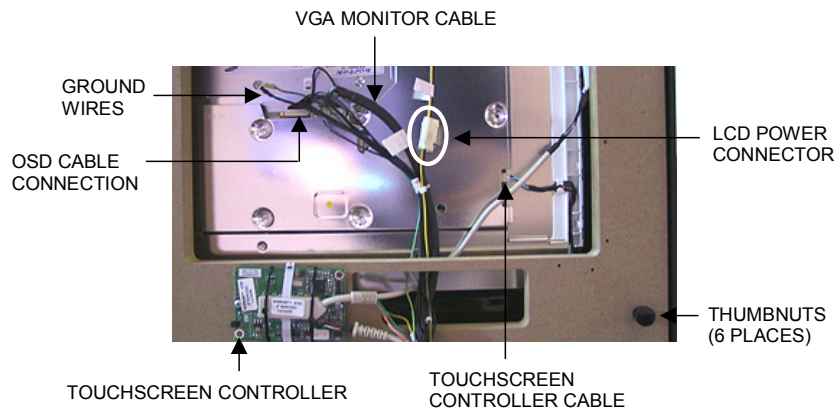

FIGURE 44 - REAR VIEW OF MONITOR / UNDERSIDE OF BEZEL
3. Remove the 6 thumbnuts fastening the bezel to the game. See Figure 44.
7. Remove the tie wraps securing the wire harnesses to the back of the monitor. Disconnect the VGA monitor cable connection and ground wire. See Figure 44.
8. Disconnect the LCD connector and remove the OSD cable connection from the monitor. See Figure 44.
9. Remove the tie wrap around the touchscreen controller and disconnect the touchscreen controller cable. Disconnect the Molex connector (orange and gray wires), as well. See Figure 44.
12. Lift the bezel to access the reverse side of the monitor. Connect the touchscreen controller cable to the touchscreen controller, then connect the Molex connector (orange and gray wires). See Figure 44.
13. Restore the OSD cable and the VGA monitor cable to the back of the monitor, and reconnect the VGA monitor cable ground wire. See Figure 44.
14. Reconnect the LCD power connector (black and yellow wires). See Figure 44.
16. Secure the bezel completely by fastening the 6 existing thumbnuts. See Figure 44.